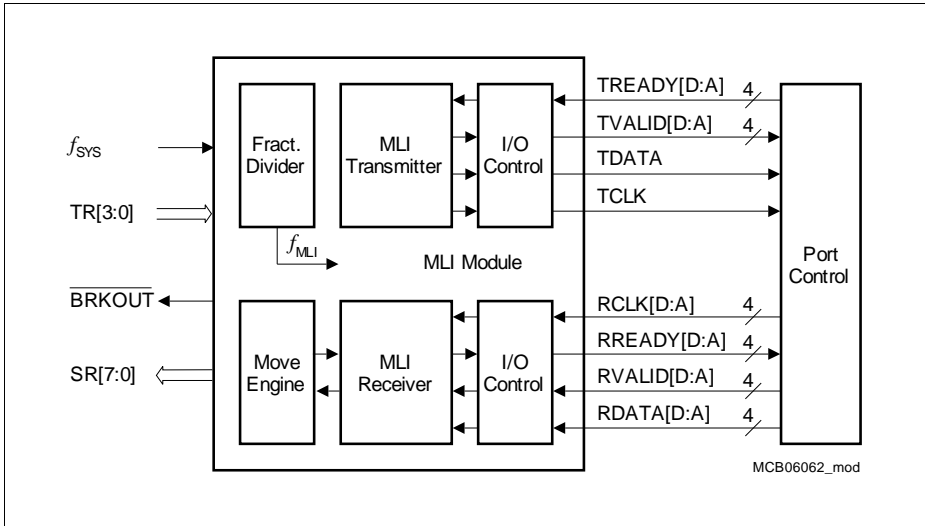

**Figure 10 Typical Micro Link Interface Connection**
**Figure 10** shows how two microcontrollers are typically connected together via their MLI interfaces.